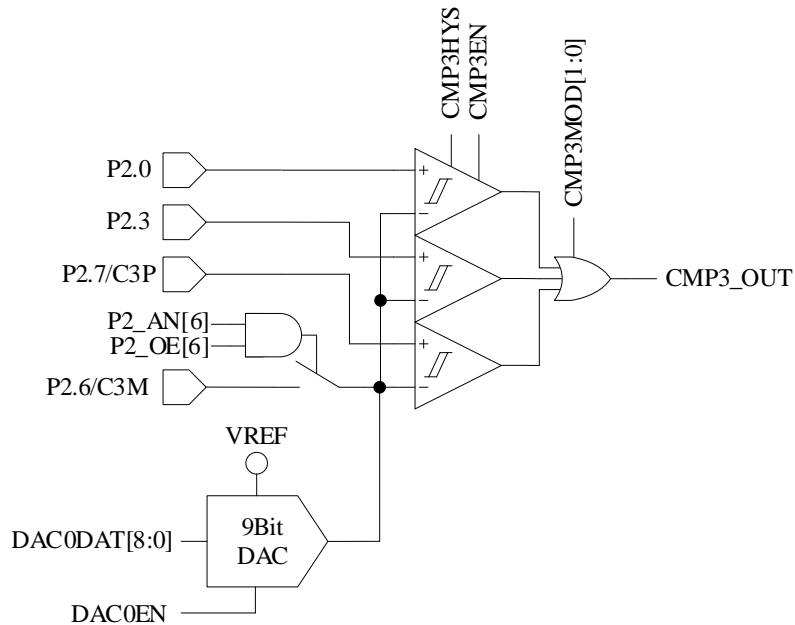

Figure 29-4 Triple-comparator Input Mode
- When CMP3MOD = 1X, CMP3 works in triple comparator input mode. The connection of input and output pins are shown in Figure 29-4.